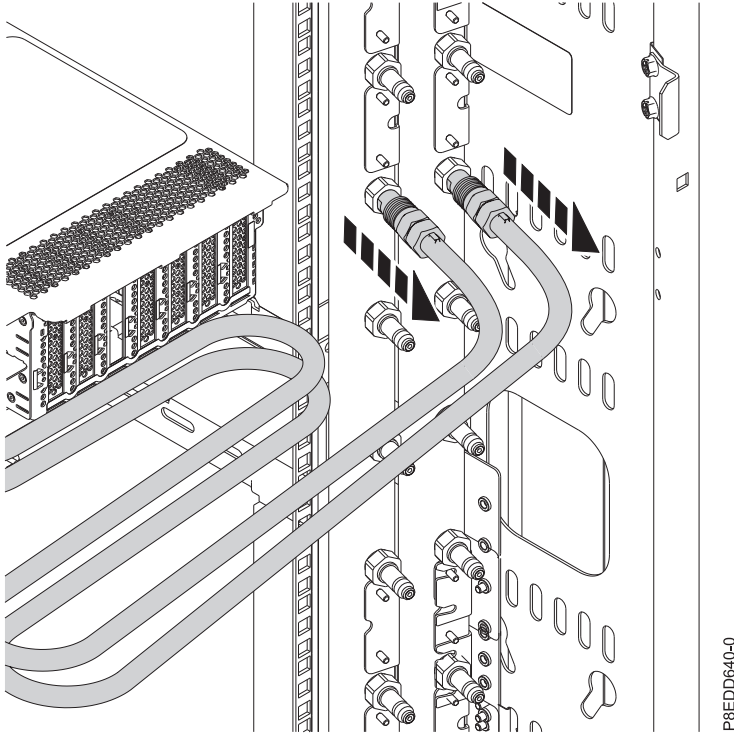

Figure 1. Disconnecting the water hoses
8. Label and disconnect the water hoses at the manifold for each server in the rack. Pull the coupling toward you to disconnect the water hoses as shown in Figure 1 on page 4.